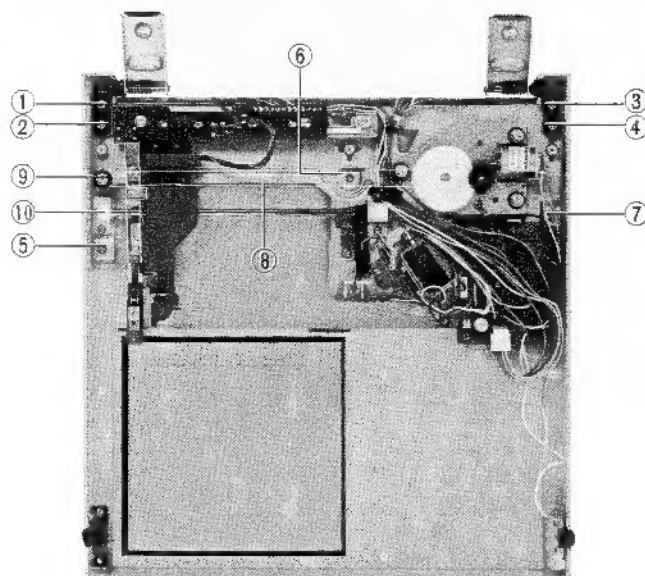

Fig. 7
### 5-(3) Removal of mechanism base ass'y (Fig. 7)
1. Remove the securing screws ① - ④ of the right and left hinges.
2. Remove securing screws ⑤ - ⑦, then take out the mechanism cover.
### 5-(4) Removal of tonearm ass'y (Fig. 7)
1. Remove carrier rope ⑧ from roller ⑨.
2. Remove shaft bracket ⑩, then take the tonearm off the shaft (arm rail).